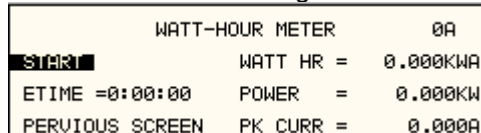

Figure 9-44: Watt-Hour Meter Screen
- The WATT-HOURS METER screen shown in Figure 9-44 has the following fields: